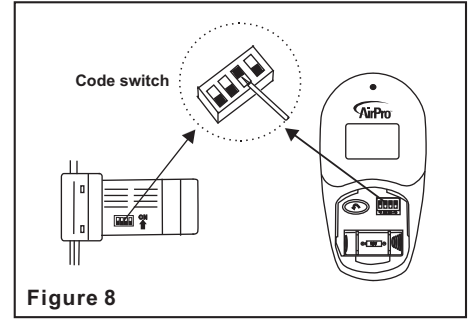

Figure 8
**NOTE:** This remote control unit is equipped with 16 code combinations to prevent possible interference from or to other remote units. The frequency switches on your receiver and transmitter have been preset at the factory. Please recheck to make sure the switches on the transmitter and the receiver are set to the same position, any combination of settings will operate the fan as long as the transmitter and receiver are set to the same position. (Figure 8)